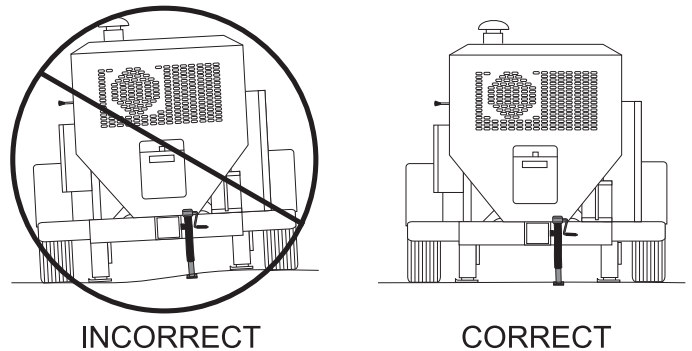

Figure 18. Rear Stabilizer Stand Deployment
- Position both rear stabilizer stands on firm (not loose) **level** ground (Figure 18).